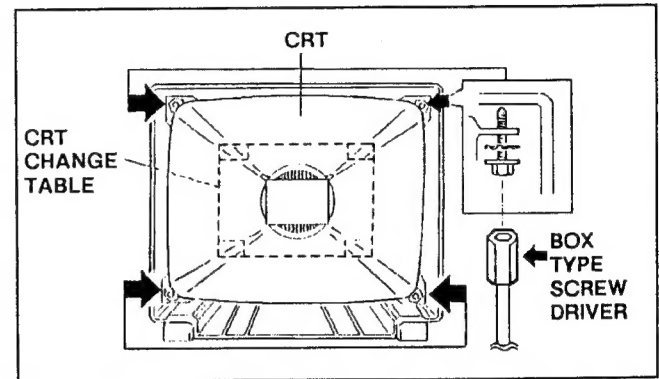

Fig. 4
- 2. While keeping the surface of CRT down, mount the TV set on the CRT change table balanced well as shown in Fig. 4.
- 3. Remove four screws marked by arrows with a box type screw driver as shown in Fig. 4.